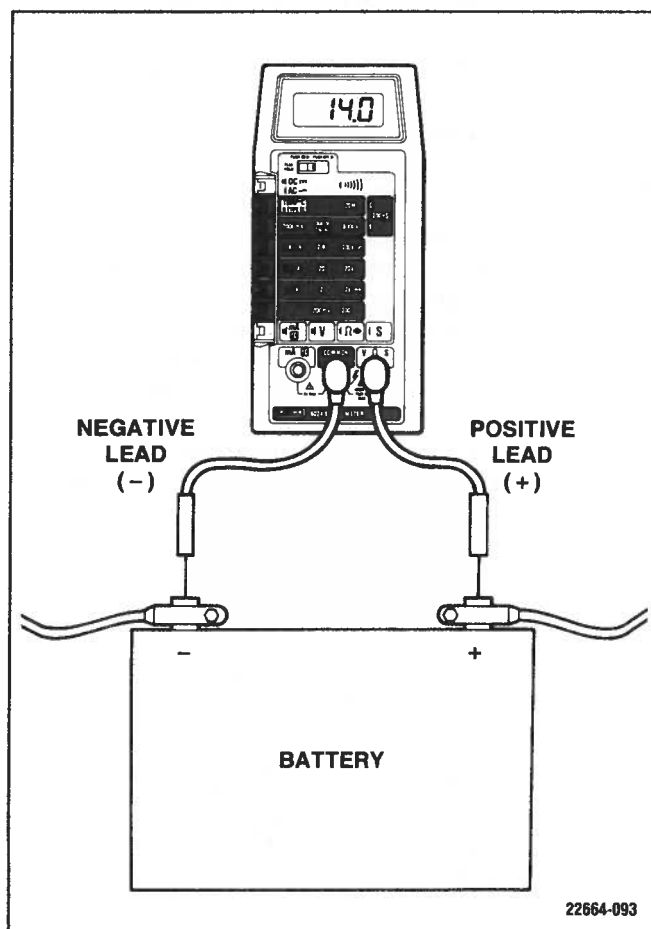

Figure 6-119. System-Voltage Check
1. Connect positive (+) voltmeter lead to positive battery terminal and negative (-) voltmeter lead to negative terminal. (Figure 6-119)